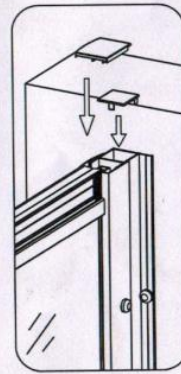

fig 17
15. Cover all the profile cover. (fig 17)